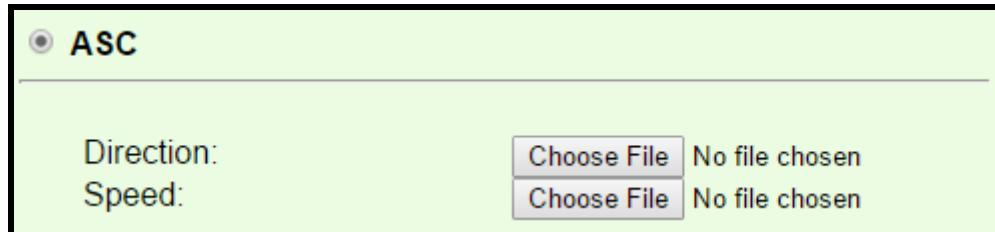

Figure 26 - ASC files as option for setting of wind parameters
- **The third option** is to choose ASC files, as shown in Figure 26. In this case, the user must provide two ASC files, one that holds information about wind speed, and one that holds information about wind direction. Wind speed is expressed in km/h, while wind direction in degrees.